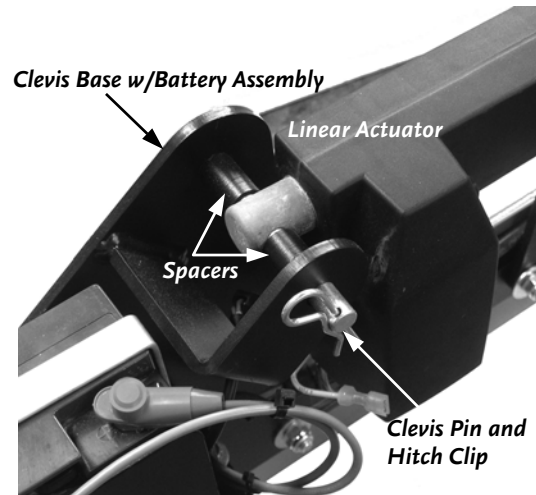

Figure 8
1. Remove the Hitch Clip, Clevis Pin, and two (2) Spacers assembled on the Clevis Base w/Battery Assembly (Figure 8).
3. Reinsert the Spacers, Clevis Pin, and Hitch Pin in the Clevis Base w/Battery Assembly (Figure 8).
NOTE: The Spacers go on either side of the Actuator (Figure 8).